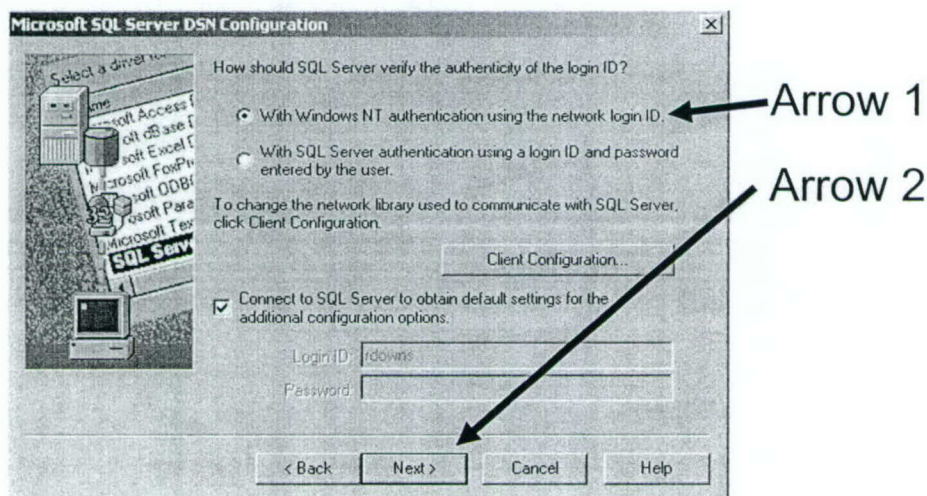

Figure B-4. Create a New Data Source to SQL Server Window (Screen 2)
12. Select the 1st radio button option, which uses the operating system to authenticate the user (Figure B-4 – Arrow 1).
13. Click “Next” button (Figure B-4 – Arrow 2).